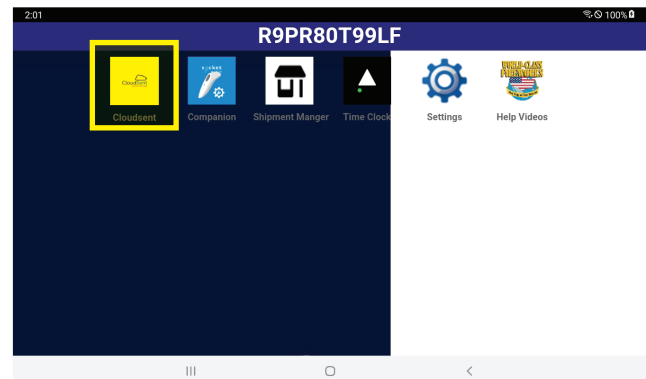

Figure 21
4. On the tablet Home Screen select the CloudSent Icon. (Figure 21).